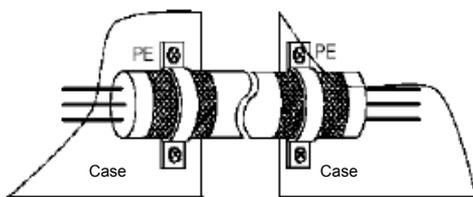

Figure A.4 Correct wiring to PE
Shielded conductors are usually used for control cable. The metal shield shall be connected to the metal housing with the cable clamps on both ends in a 360° ring, as shown in Figure A.4. Figure A.5 shown a wrong shielding.
(3) Shielded cables shall be used for the motor, preferably with a double shield of screw metal belt and metal net. The motor cable shield on the inverter side shall be connected to the back panel with the cable clamps in a 360° ring (as shown in Figure A.4). There shall be two fixing positions: one near the inverter (preferably less than 15 cm), and the other on the grounding terminal. The motor cable shield shall be connected to the grounded metal housing of the motor in a 360° ring when the motor end goes cross the terminal box. If it is too difficult, the shields may be braided and then flattened to connect the grounding terminal, with the width larger than 1/5 of the braid length. The bare cable core and the PE braid shall be as short as possible, preferably smaller than 5 cm.
(4) Shielded cables shall be used for terminal control. The shield shall be connected to the grounding terminal at the entry of the cabinet with metal cable clamps in a 360° ring. It may be connected to the metal housing of the inverter through metal cable clamps. If it is too difficult, the shields may be braided and then flattened to connect the grounding terminal, with the width larger than 1/5 of the braid length. The bare cable core and the PE braid shall be as short as possible, preferably smaller than 15 cm.
(5) The keyboard line may not go outside the shielded cabinet.
(6) Holes on the cabinet shall be as small as possible, no larger than 15 cm.